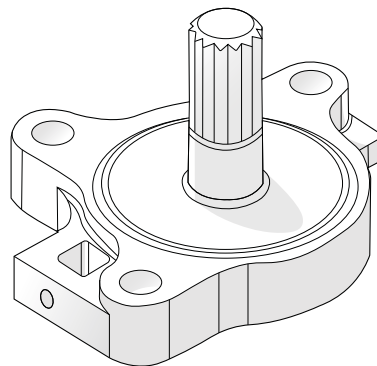

Figure 9 - E-axle towing tool
1. Locate the "E-Axle Towing Tool" (15200137-0101) (Figure 9) stored in the vehicle's side skirts or in the glove box. If not present, install the O-ring from the shift actuator.